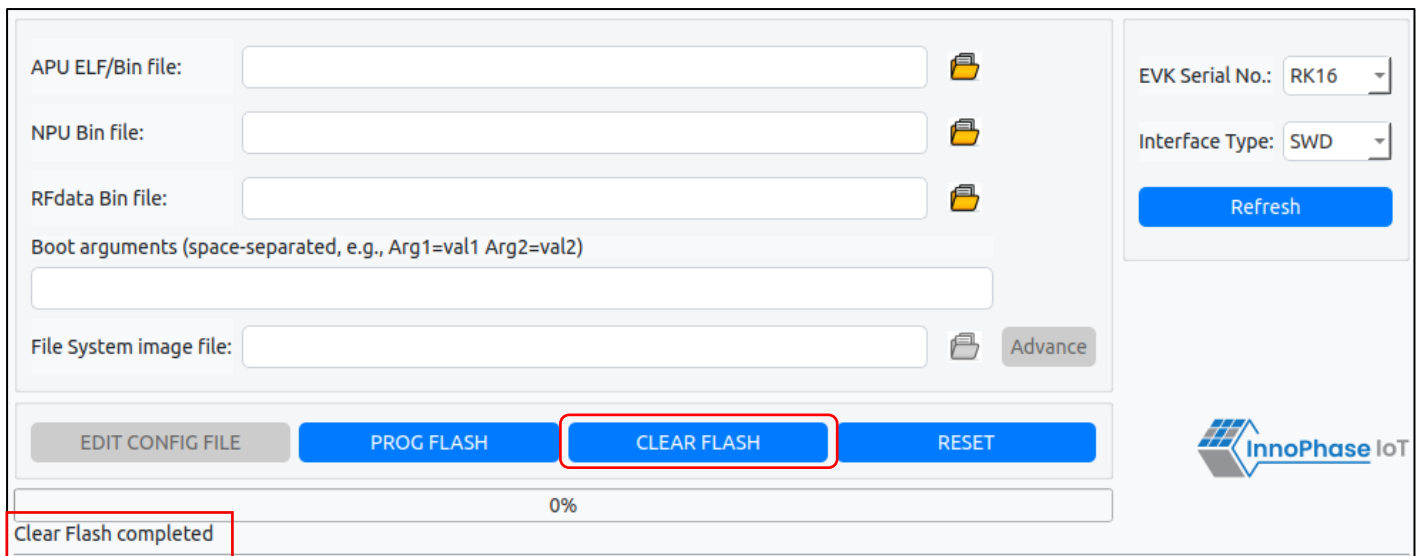

Figure 17: CLEAR FLASH
- Use `CLEAR FLASH` to clear the application on Neon flash, as shown in Figure 17.
- Once Clear flash is completed, status message shows “Clear Flash Completed”, as highlighted in Figure 17.